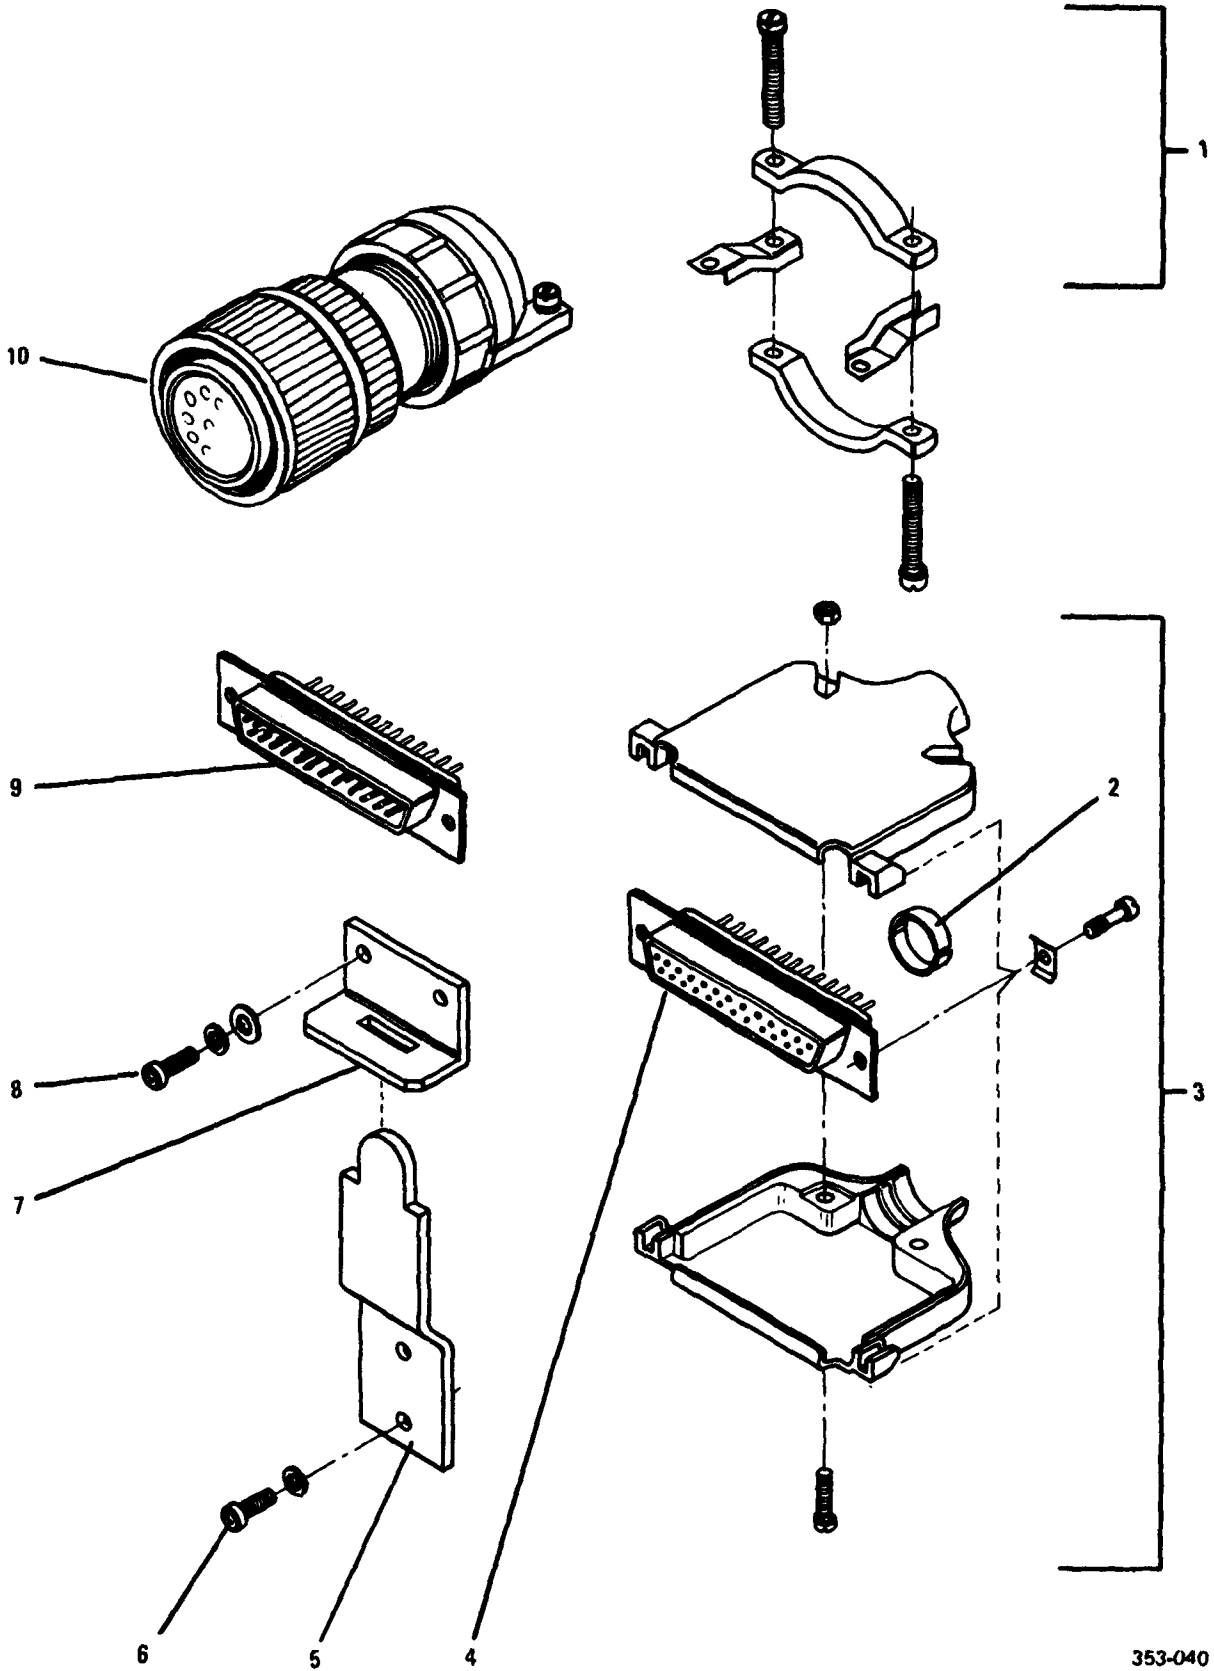

Figure 7-3. Installation Kit for 1 KW LPA
*Installation includes Ancillary Kit 10087-0060 (See Figure 7-3)